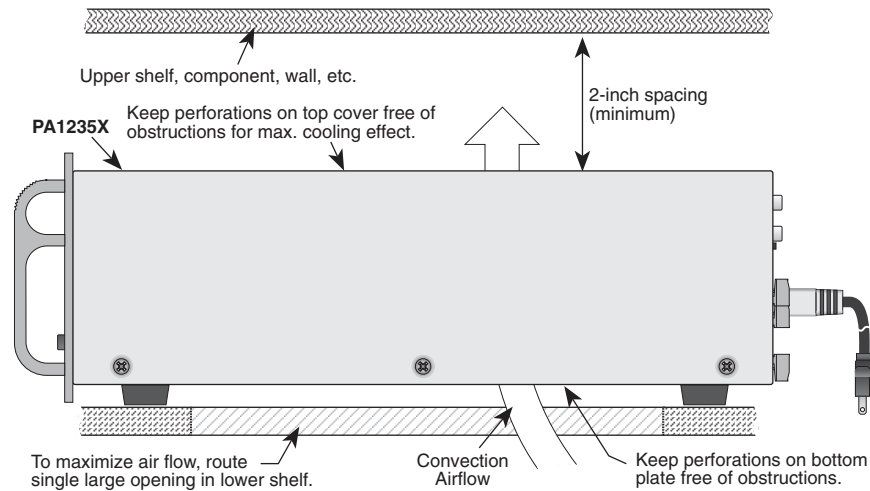

Figure 4 – PA1235X Horizontal Mounting
2. If mounted in an equipment cabinet or other confining location, allow at least 2 inches of space above the top cover (see Fig. 4). Be sure there are large openings in the shelf below the unit and in the cabinet to allow the entry of cool air and the escape of warm air.